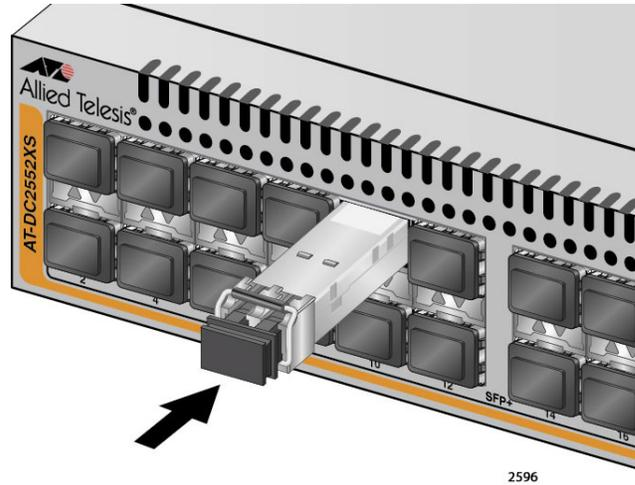

Figure 26. Installing a SFP+ Transceiver
5. Slide the module into the slot until it snaps into place as shown in Figure 26 on page 58.